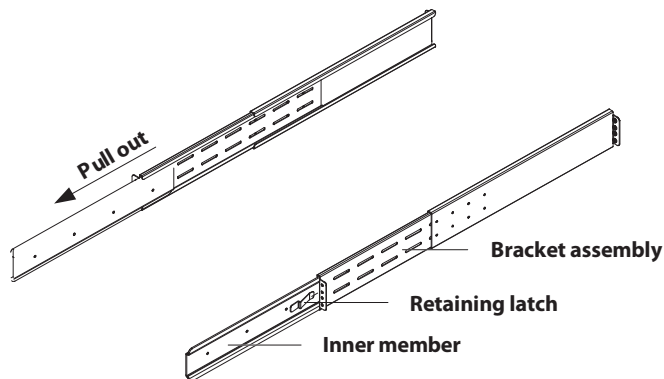

Figure 8: Pulling inner member from each bracket assembly
2. Remove inner member of each bracket assembly by extending it to its outermost position, depressing the retaining latch and then pulling inner member from bracket assembly (see Figure 8).